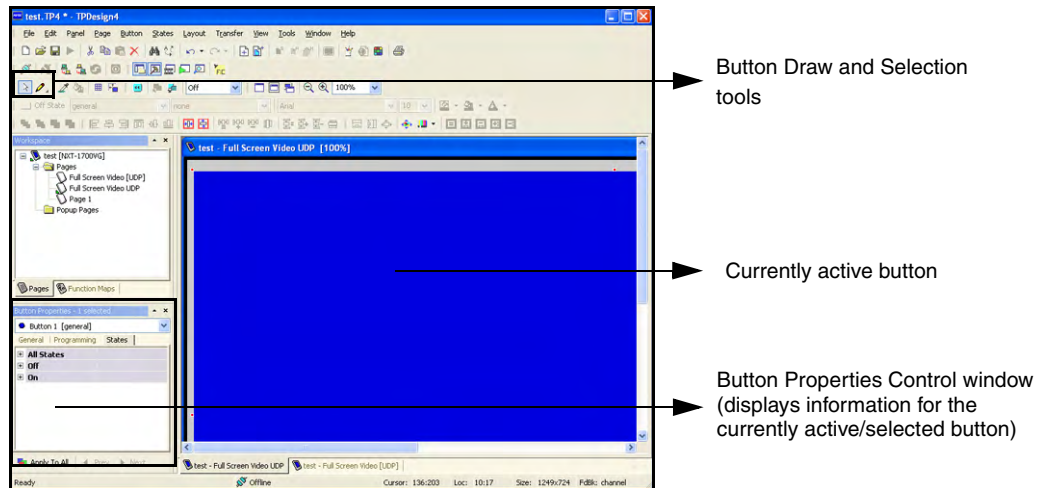

FIG. 44 Button Properties tab
- Press the **Selection Tool** (CTRL+L) to grab the new button and stretch it to fill a desired area of the page. For our procedures, we stretched the new button to fill the entire available are of the newly created page (FIG. 44).
- With the button currently selected and active, navigate to the left section of the Workspace and find the **Button Properties** Control window (FIG. 44).